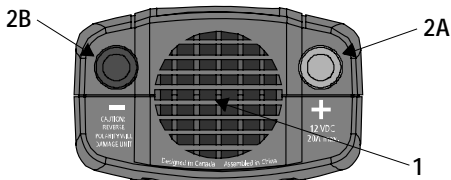
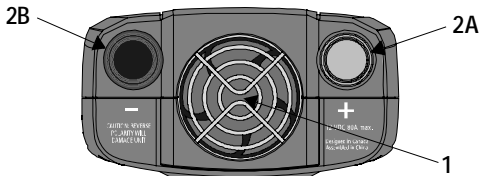
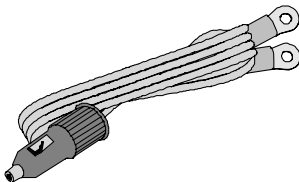
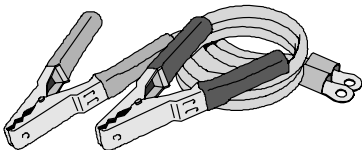

Figure 3 DC Panel of 200 W unit
Figure 4 DC Panel of 800 W unit
Figure 6 Lighter Plug Cable
Figure 7 Cable for Direct Connection to a 12 V Battery
Figure 3 shows the DC panel of the 200 W unit. Use Table 1 to identify the function of items.
Figure 4 shows the DC panel of the 800 W unit, which is very similar to the 400 W unit. Use Table 1 to identify the function of items.
Figure 6 shows the lighter plug cable that is included with the 200 W unit and 400 W unit.
Figure 7 shows the cable supplied with the 400 W unit and 800 W unit for direct connection to a 12 V battery.
3. Take the power cord equipped with the lighter plug (Figure 6) and place the ring terminals over the two cabling terminals on the back of the inverter. (The cabling terminals are shown in Figure 3 and Figure 4.)
3. Take the cables equipped with battery clamps on one end (Figure 7) and place the ring terminals over the two cabling terminals on the back of the inverter. (The cabling terminals are shown in Figure 3 and Figure 4.)